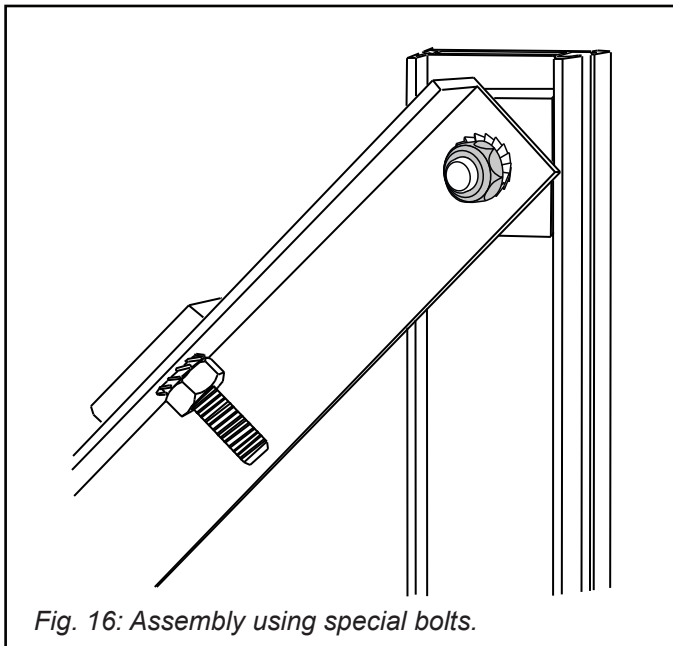

Fig. 16: Assembly using special bolts.
- Assemble the triangular supports that come partially screwed together (Fig. 16). Join the loose support ends with a bolt (Fig. 16) and tighten all connections.